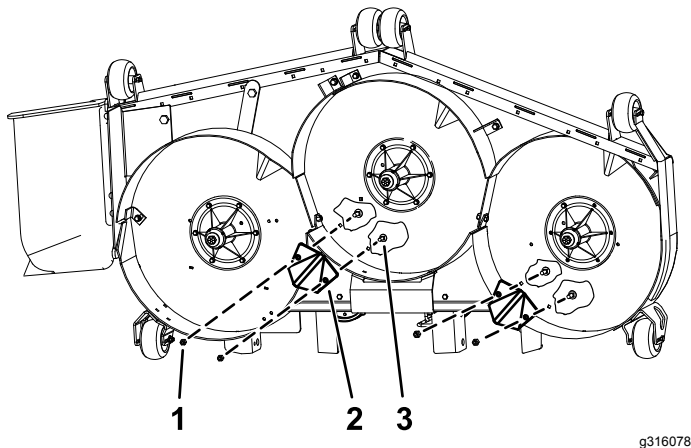

Figure 5
1. Remove the existing bolts and nuts in the holes for the kickers (Figure 5).
2. Install the new kickers to the mower deck in the locations shown in Figure 5.
3. Secure the kickers using 4 carriage bolts (5/16 x 1 inch) and 4 locknuts (5/16 inch) as shown in Figure 5.